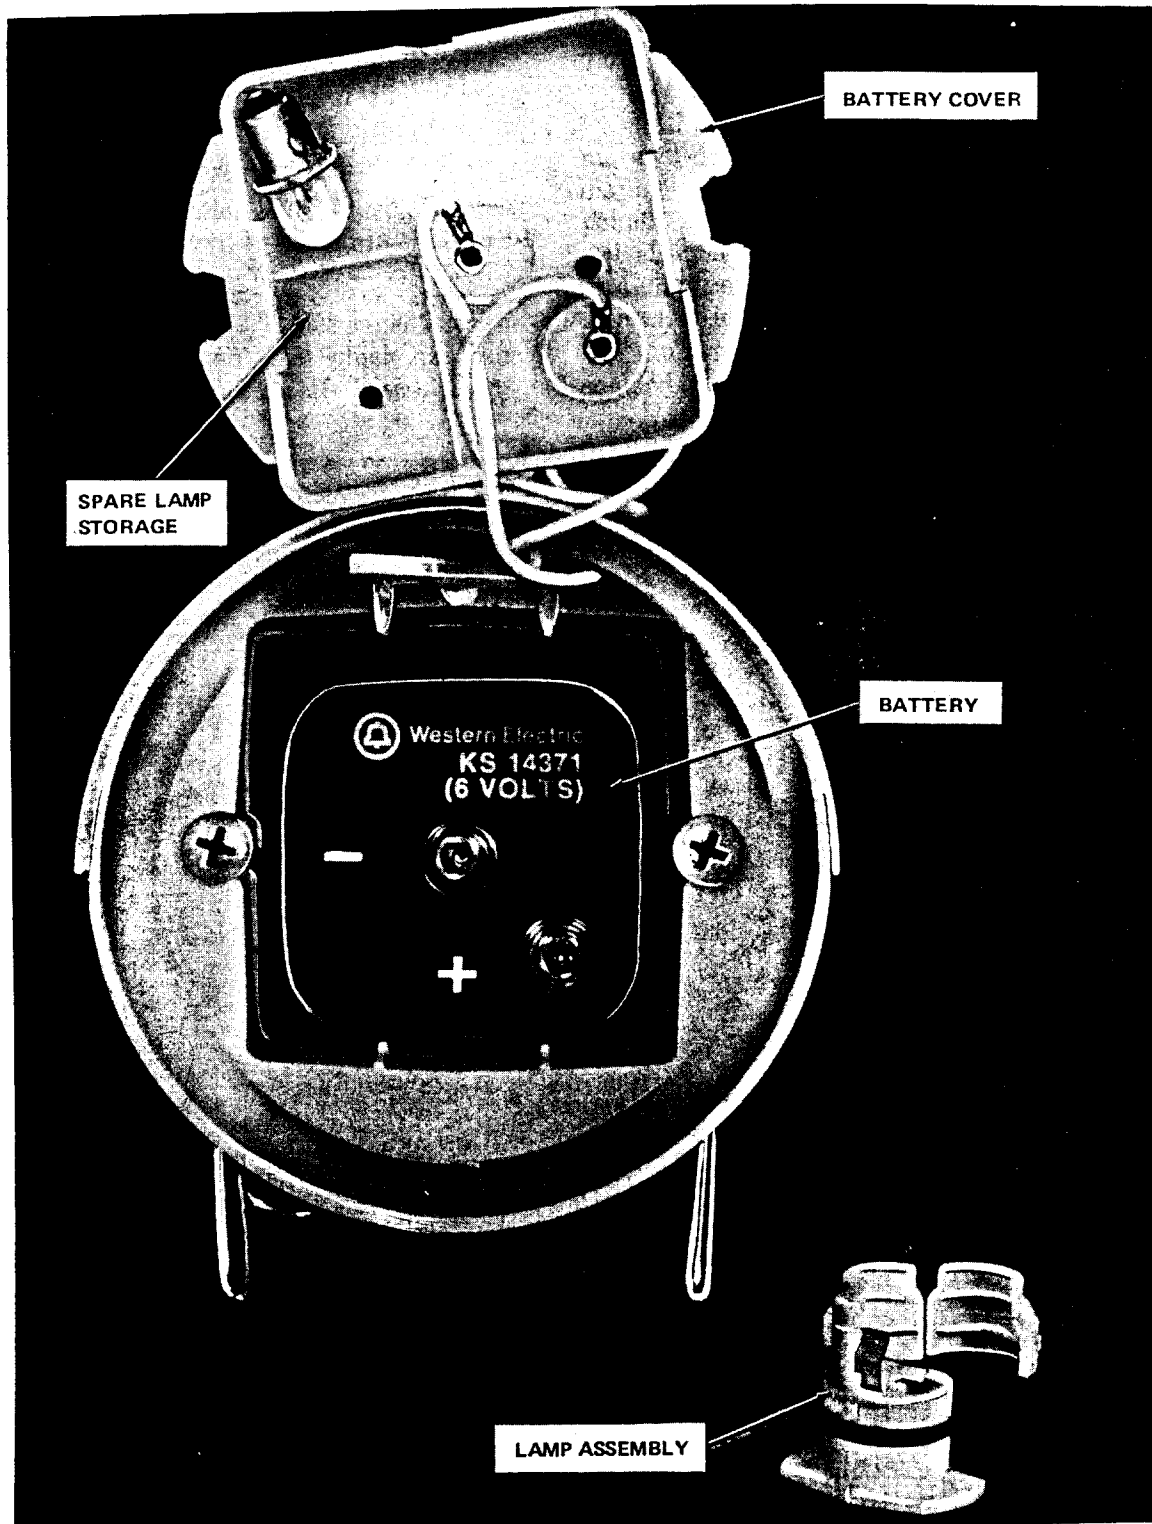

Fig. 3—B Electric Lantern—Battery Installed
2.04 A KS-14371 primary battery or equivalent (6 volts) is required to power this lantern, but must be ordered separately. To replace the battery, the battery cover must be removed. The lantern case with the battery installed is shown in Fig. 3. The battery cover is secured by tabs which fit under screw heads on either side. The battery cover is equipped with squeeze tabs which enable the cover to be removed from the lantern case.